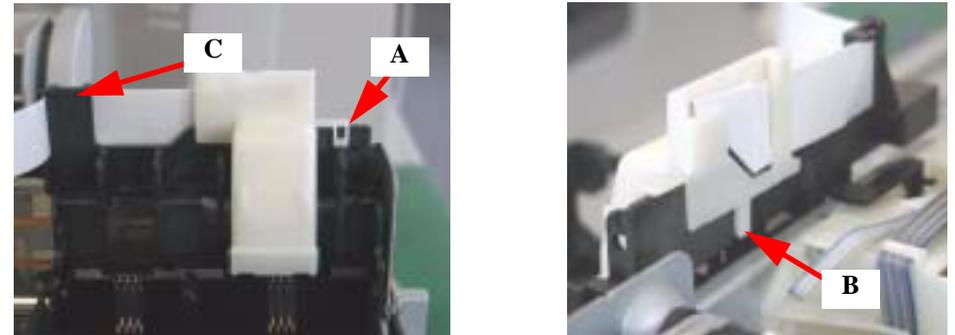

Figure 4-20. Removing the FFC Holder
1. Set the Head FFC in the holding portion (at C) of the Carriage Unit. (See Figure 4-20, "Removing the FFC Holder", p. 46)